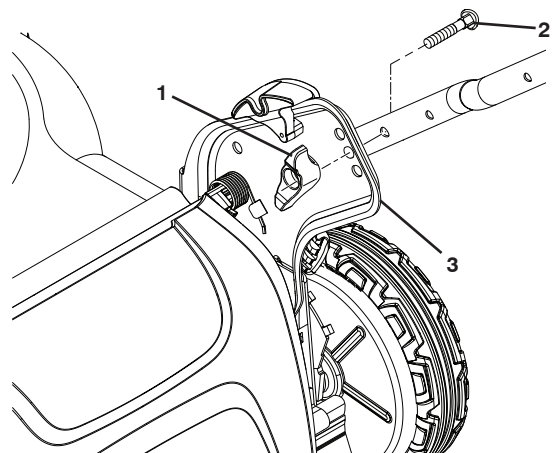

Figure 30
2. Remove the two (2) handle knobs and carriage bolts on sides of the lower handle and pivot entire handle assembly forward and allow it to rest on mower (Figure 30).